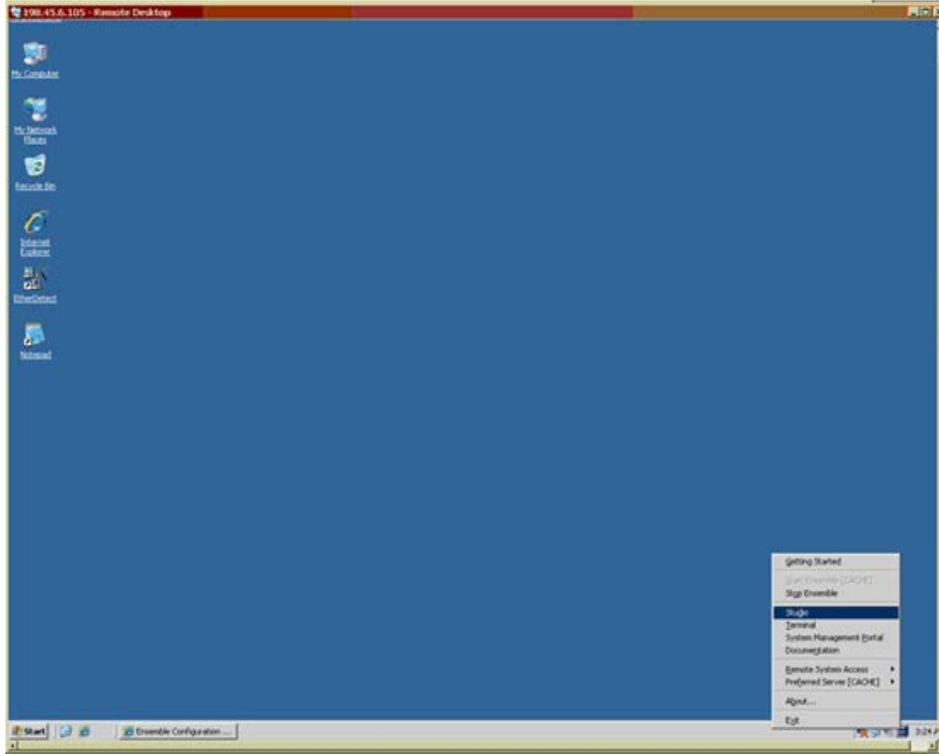

Figure 4-19: Opening **Studio**
1. Click the **Ensemble cube** in the system tray (at the right end of the Windows taskbar) and click **Studio**, as shown in Figure 4-19. A login ID and password may be required.